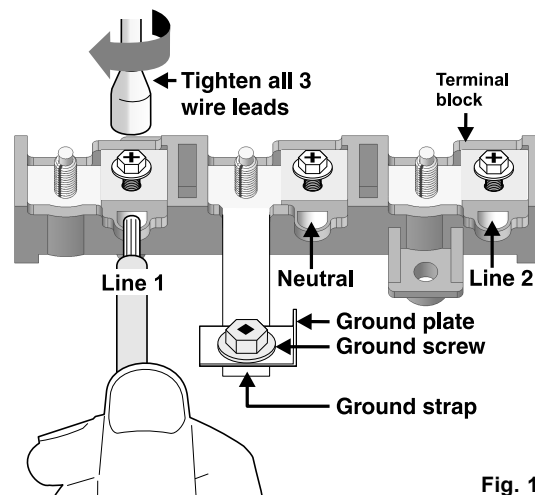

Fig. 14
2. **(3 & 4 - Wire Permanent Connections)** Strip insulation away from the ends of the permanent wiring for Line 1, Line 2, Neutral (also strip ground wire on 4-Wire Connections). Tighten all 3 wire leads to the terminal block (Follow wire locations shown in Fig. 14).